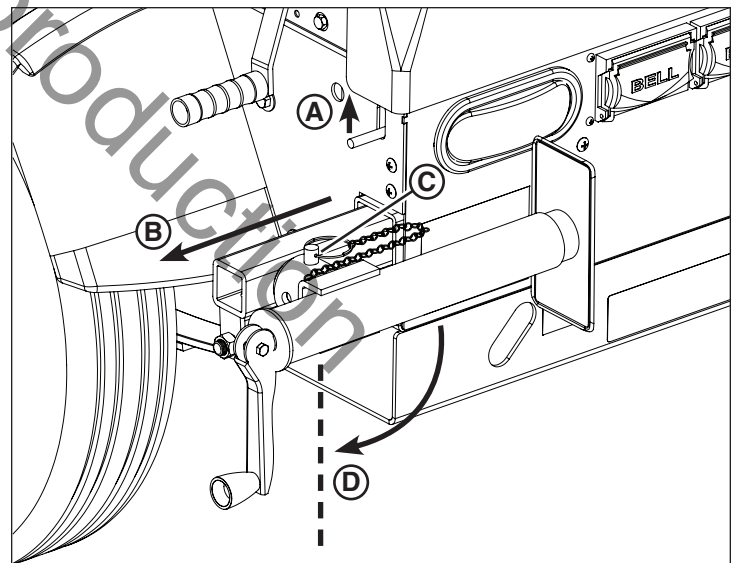

Figure 14
- a. Lift the outrigger locking pin (A, Figure 14).
- b. Slide the outrigger (B, Figure 14) out until the pin locks the outrigger in the operating position.
- c. Remove the stabilizer jack locking pin (C, Figure 14), rotate the jack into the operating position (D), and install the stabilizer jack locking pin fully through the top and bottom holes in the jack and outrigger.